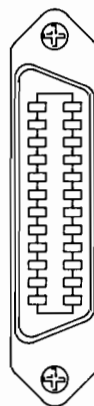

Figure 2. HP-IB Connector
1. Check to see if the HP-IB card is installed in your computer. If it's installed, you will see an HP-IB connector in the back of your computer. Figure 2 illustrates an HP-IB connector.